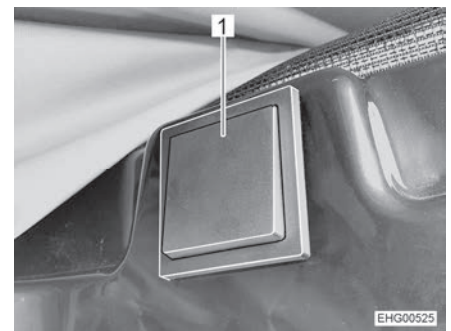

Fig. 46 Push button for electrical release
The push button for the electrical release (Fig. 46) is located on the right-hand side in the area above the sliding door.
- Press and hold the push button (Fig. 46,1) for least 2 seconds.